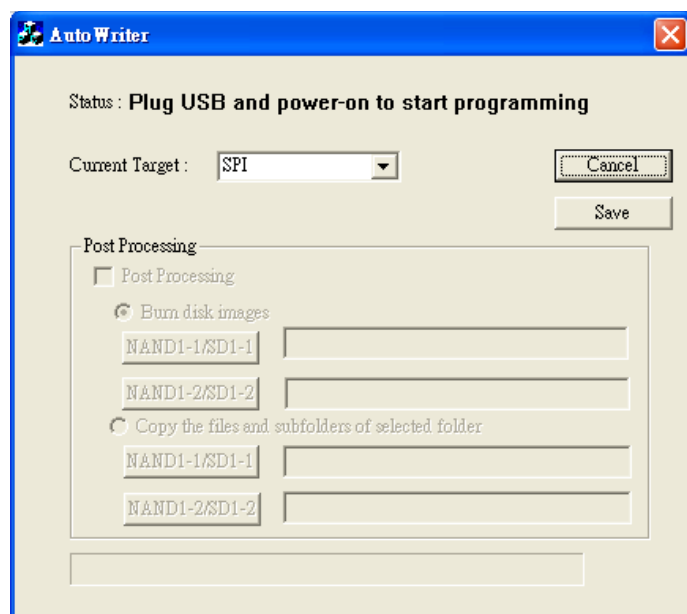

Figure 3–2 UI of AutoWriter
- (2) sets the NuEZcam solution to be recovery mode, it means to short J1 pins of NuEZcam solution shown in Figure 3–3, and plug USB cable into PC/NB.